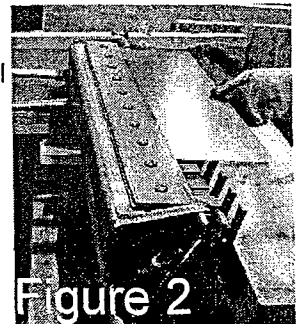

Figure 2
1) Insert the piece of material where a cleat bend is desired as shown in Figure 2. The material should be inserted in the front of the machine, making sure the material has been fully inserted under the flange.